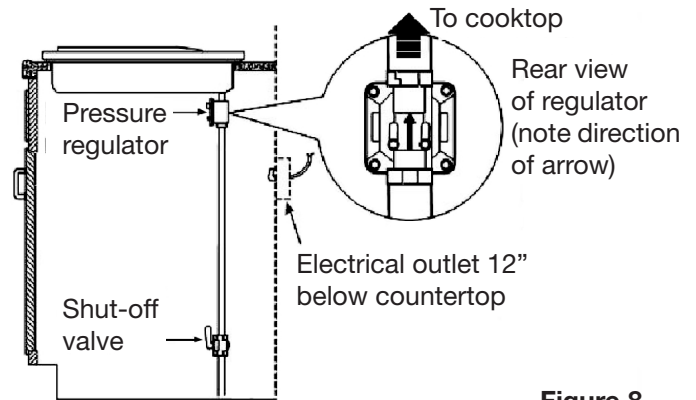

Figure 8
- The gas supply line must be equipped with an approved manual shut-off valve. In an easily accessible location in the same room as the cooktop. Do not block access to the shutoff valve. Be sure you know how and where to shut off the gas supply to the cooktop. Install the electrical outlet 12" below the countertop (see Figure 8).